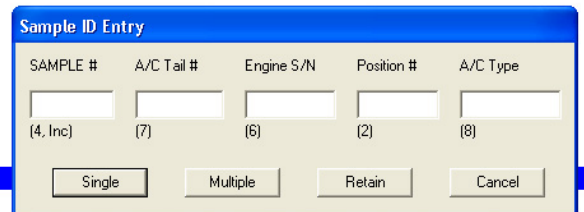
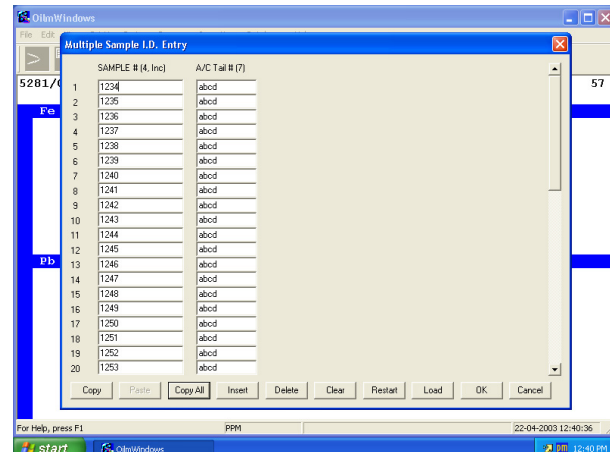

Figure 2-13, Single Sample ID Entry Menu
Figure 2-14, Multiple Sample ID Entry Menu
When the Spectroil M is ready to analyze a sample, the Sample I.D. can be entered by pressing function key 3 (F3), or by clicking on the Sample I.D. icon. This menu option will produce a dialog to permit the entry of one single ID, Figure 2-13, or provide the capability to pre enter multiple sample ID's, Figure 2-14, using the MULTIPLE button. Both dialogs are configured at the system level by the System/Sample ID option.